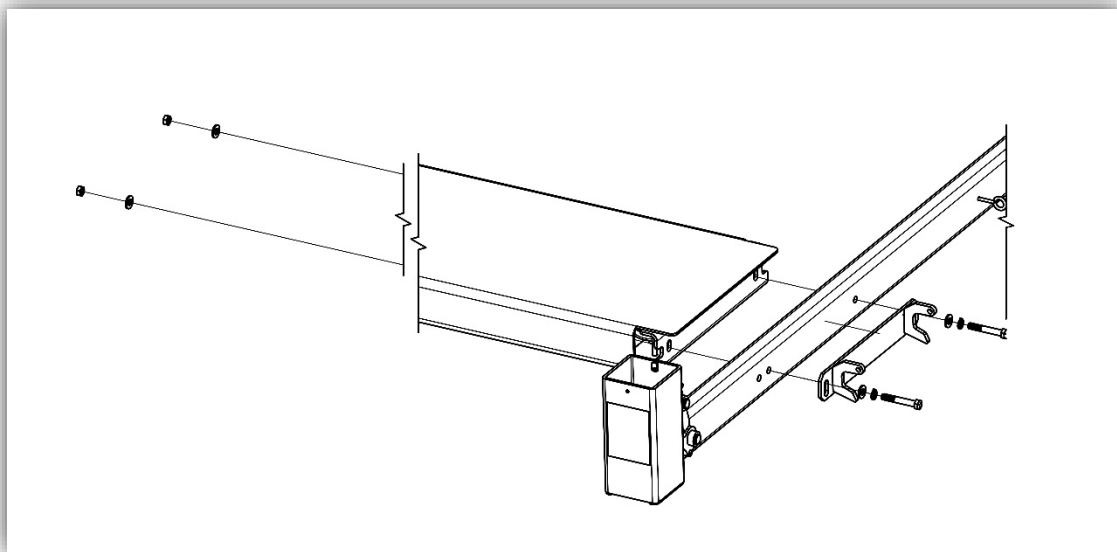

Figure 4.2
Find the automatic wheel stop mounting plates (2) and 1/2-13 x 3-1/4 bolts (4), 1/2-inch washers (8), 1/2-13 nuts (4) and 1/2-13 lock washers (4). Assemble as shown in figure 4.2. The nut and washer may be installed by placing through the window where the cables exit the runway and held with an open-ended box wrench. Repeat on the opposite side of the runway. Once the powered runway is secured, repeat the process for the next runway. Ensure the accessory rails are both facing each other.